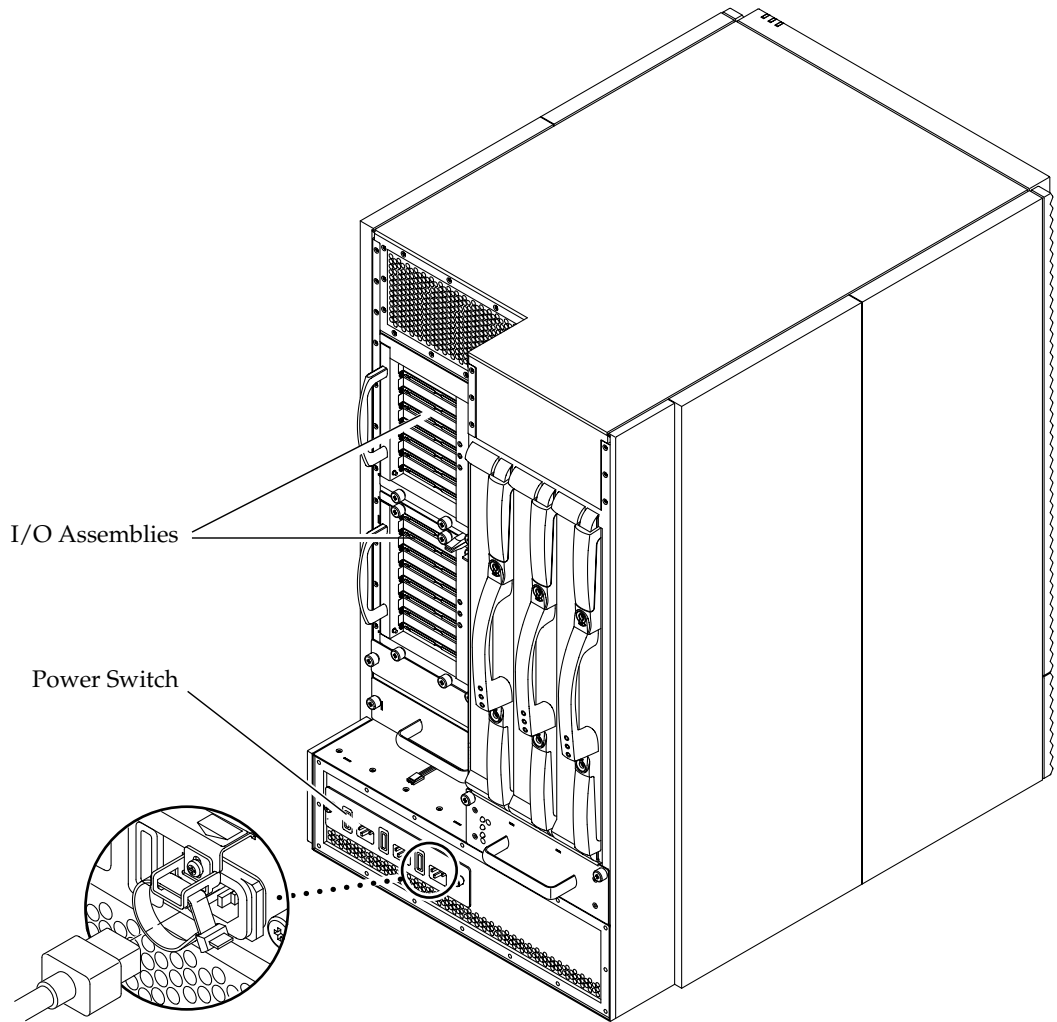

FIGURE 4-1 Power Switch, Power Cord Socket and I/O Assembly Locations on the Sun Fire 4800 System
1. Turn each power switch to the off position (FIGURE 4-1).
The I/O assemblies provide network interface and peripheral access for the domains (FIGURE 4-1).
1. Turn each power switch to the on position (FIGURE 4-1).
6. Turn each power switch to the on position (FIGURE 4-1).